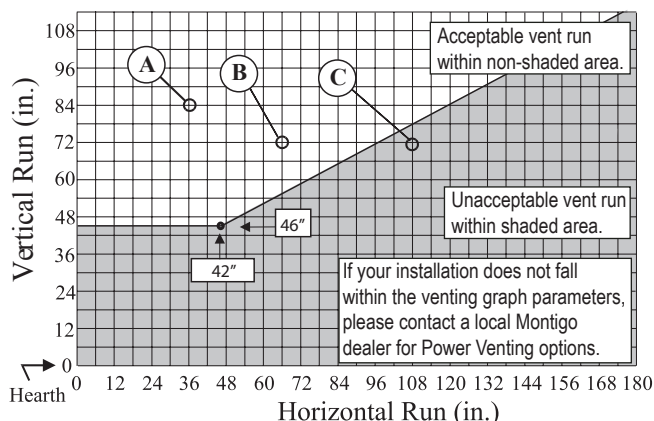

Figure 13. H\*42DF\* Top Vent Venting Graph for wall mounted terminations.
- Once the proposed venting layout has been determined refer to Figure 13 or 15 to ensure the layout is acceptable.
- Venting runs *must* fall within the limits set by the venting graph, see Figure 13.
Measure the vertical height from the fireplace hearth to the centre of the termination and the horizontal run from the fireplace flue collar to the wall flange of the termination. Plot on the Venting Graph Figure 13 with an 'X'.
Figure 13a. Top Vented, wall mounted installation with one 90° bend. The vent run must comply with Venting Graph for Top vent, wall mounted terminations, Figure 13.